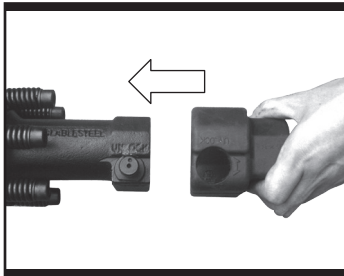

Fig. 1
1. DUSTPROOF COVER (See Fig. 1)